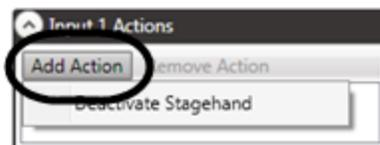

Figure 189
2. In the **Input (1, 2, 3 or 4) Action** section of the **FX Editing Pane**, click the **Add Action** button (Figure 189).